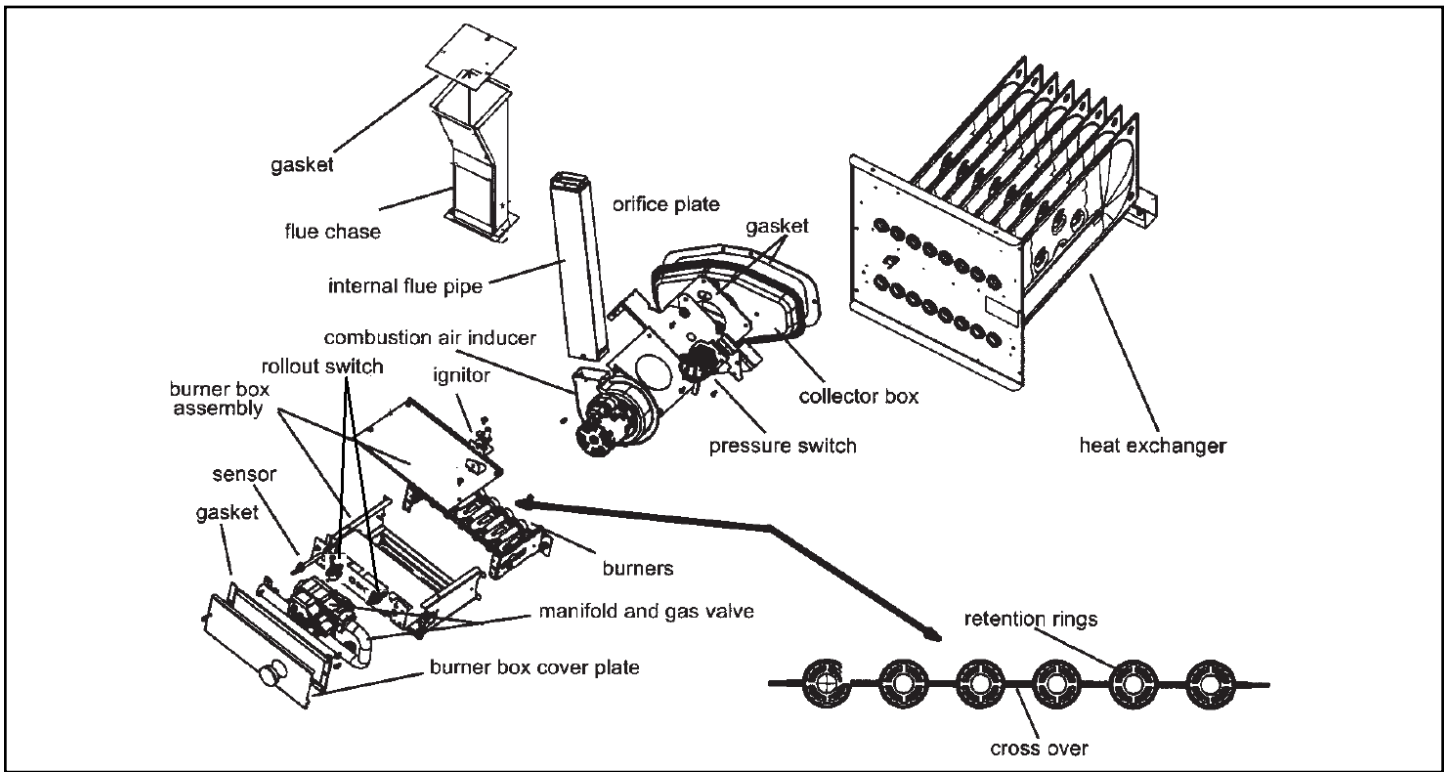

Figure 39. Burner, Combustion Air Inducer Assembly & Heat Exchanger Removal
11. To clean burners, run a vacuum cleaner with a soft brush attachment over the face of burners. Visually inspect inside the burners and crossovers for any blockage caused by foreign matter. Remove any blockage. Figure 39 shows burner detail.